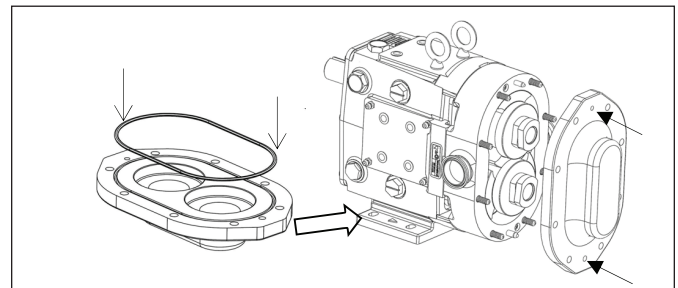
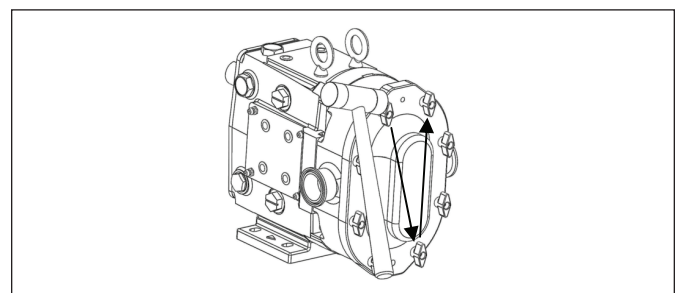

Figure 63. Installing Cover O-Ring and Cover
Figure 64. Tightening Cover Wing Nuts
3. Install the new cover o-ring and slide the cover over the studs making sure that the dowels in the body are aligned with the correct dowel holes in the cover (Figure 63). Visually inspect to ensure that the cover o-ring remained in place. Turn the wing nuts (clockwise) by hand and fully tighten them by striking them with a soft mallet. Tighten the wing nuts in an opposing manner as seen in Figure 64, so that the cover is evenly tightened to the body.